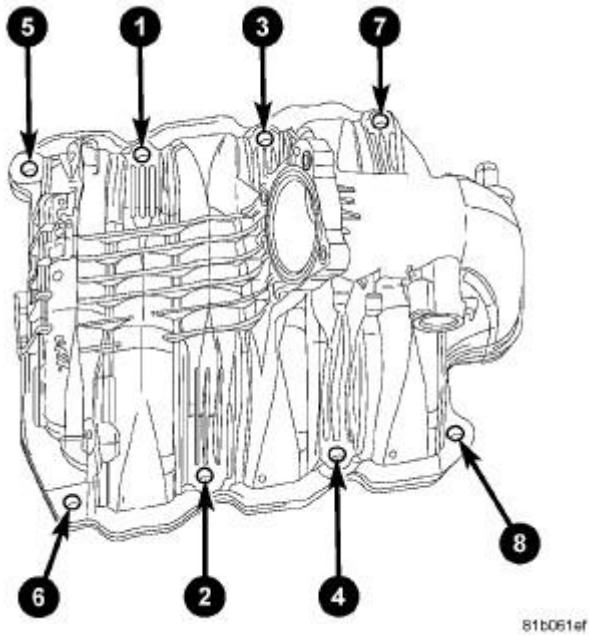

Fig. 184: 3.7L INTAKE TORQUE SEQUENCE
3. Install intake manifold retaining bolts and tighten in sequence shown in **Fig. 184** to 12 N.m (105 in. lbs.).